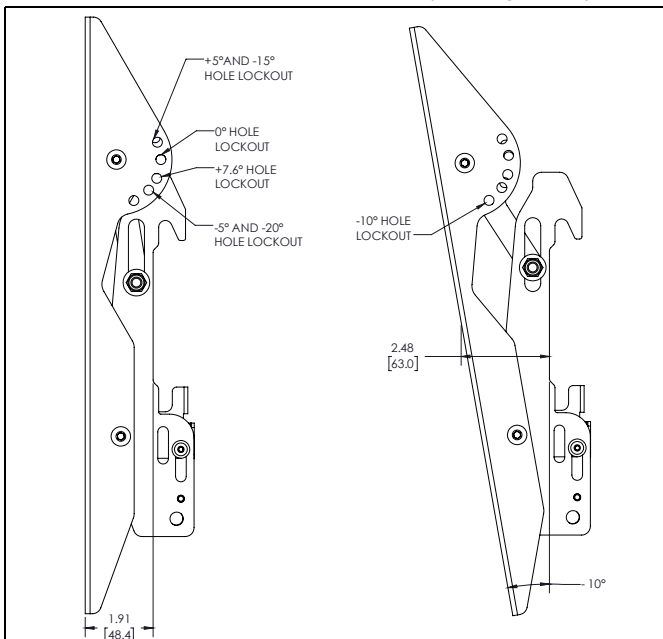
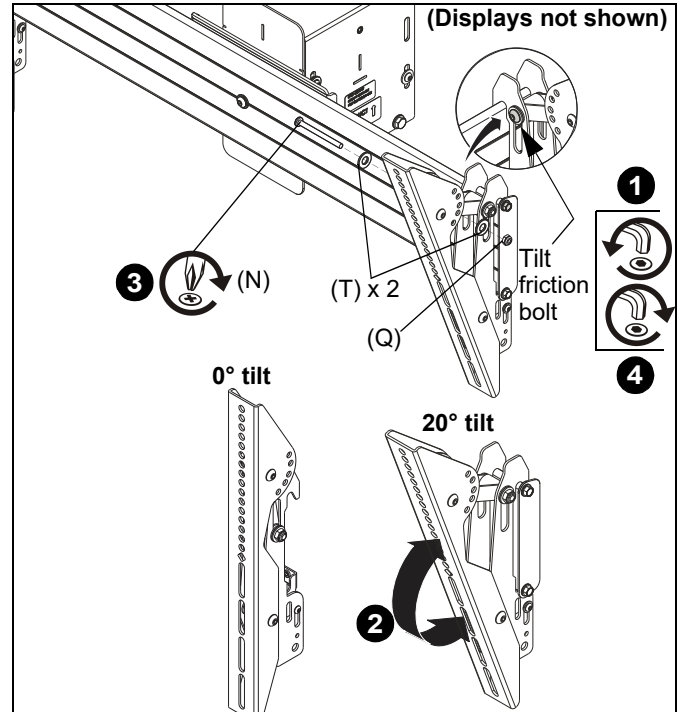

Figure 21
Figure 22
The interface brackets allow -7.6° to 20° tilt, and can be locked at -7.6°, -5°, 0°, 5°, 10°, 15° and 20° tilt. (See Figure 21)
1. If necessary, loosen button head tilt friction bolt (located on side of interface bracket). (See Figure 22)
2. Adjust tilt as required. (See Figure 22)
3. The tilt may be locked at -7.6°, -5°, 0°, 5°, 10°, 15° and 20° using one 1/4-20 x 2" Phillips head screw (N), one 1/4-20 lock nut (Q) and two 1/4" washers (T) per interface bracket. (See Figure 21) and (See Figure 22)